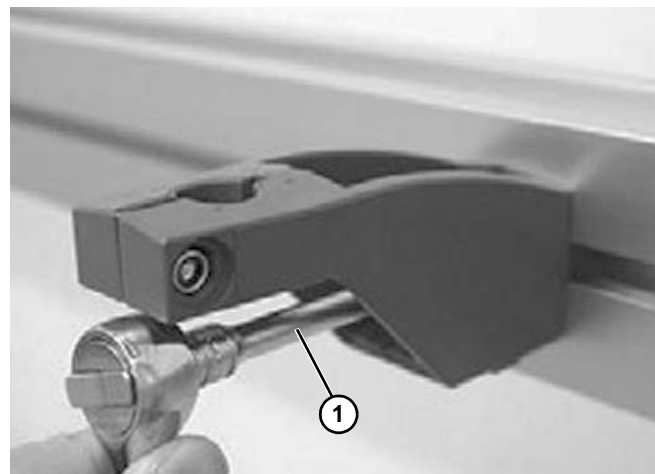

Figure 102
2. Attach the bracket onto conveyor beam and tighten with a socket wrench (**Figure 102, item 1**). Install upper and lower caps.